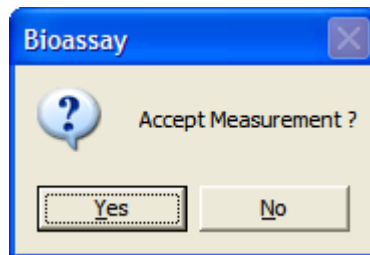

Figure 8-8
- vii. Next, the screen appears as shown in Figure 8-8, asking you if you want to accept the measurement.